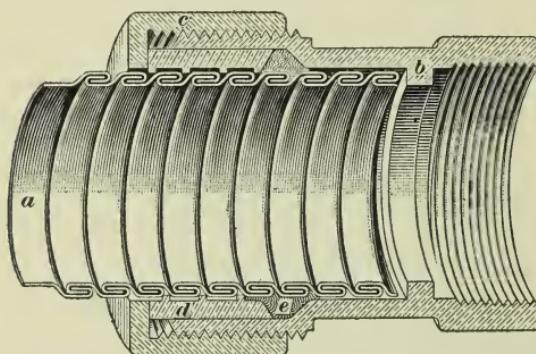

FIG. 4
**16.** Fig. 4 shows a flexible metallic tube *a* in section. It